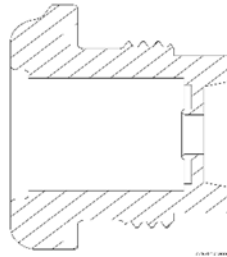

Figure 8-3 Threaded Bushing (item 14) starting at S/N F0-XXXXX
- a. Install new lightly greased O-Ring (15) onto threaded bushing (13).
- b. Insert new check valve (18), spring (17), spring guide (16) and threaded bushing (13) into housing (6). Screw threaded bushing (13), using a 1-5/8" socket wrench, into housing (6). See Figure 8-3 for visual identification of threaded bushing (13). Tighten bushing (13) to 10-15 ft lbs. (14-20 Nm).